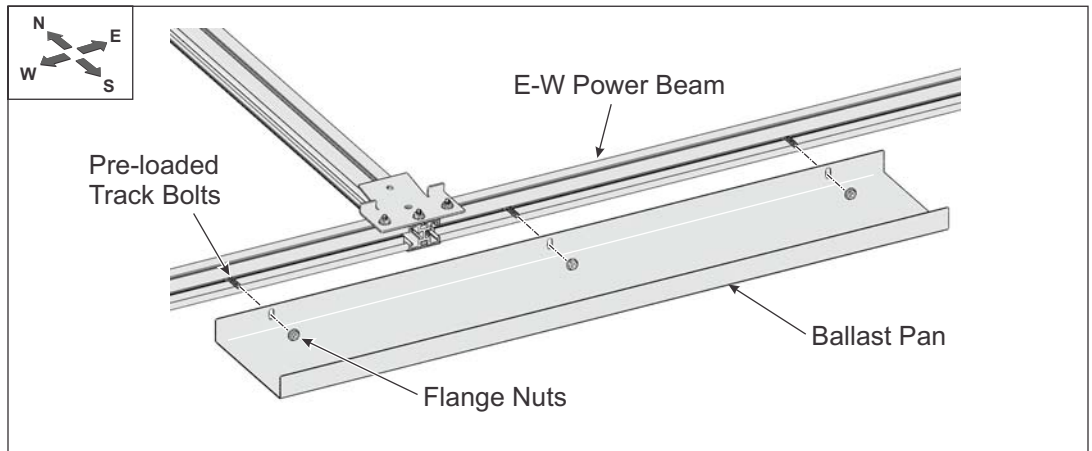

Figure 10-2: Installing a Ballast Pan to the E-W Power Beam
B. Align the Ballast Pan mounting holes with the Track Bolts then install and tighten Flange Nuts. **Torque to 14-16 ft.-lbs.** (See Figures 10-2 and 10-3)